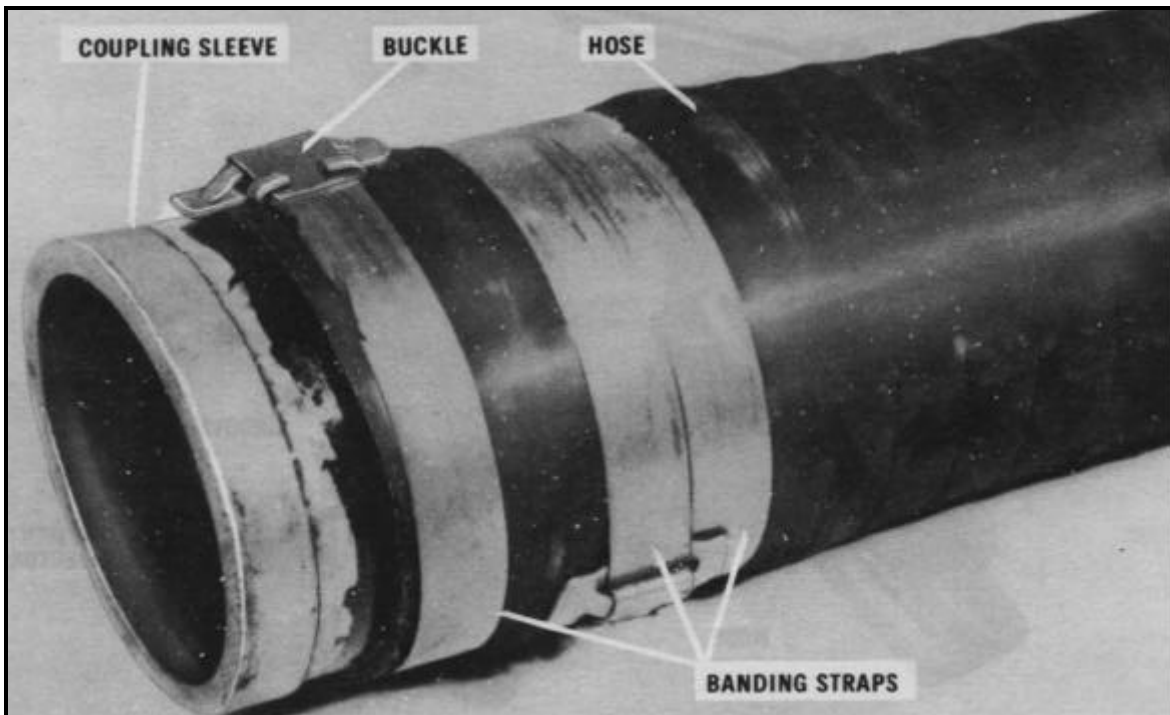

Figure 27-14. Completed coupling repair
- Bond the sleeve to the hose with three banding straps as shown in Figure 27-14, page 27-11.